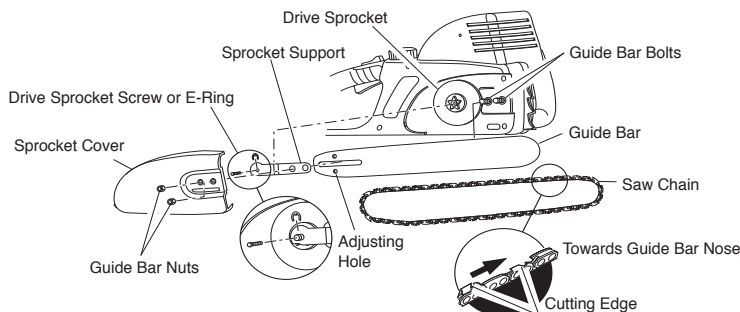

Figure 4 - Assembling Guide Bar and Chain
3. Loosen and remove drive sprocket screw or remove E-ring from shaft (see Figure 4). Remove sprocket support.
Note: Make sure cutting edges of chain are facing in right direction. Position chain so cutting edges on top of guide bar face guide bar nose (see Figure 4, and indicator on side cover of saw).
9. Turning chain tensioning knob (Model RM1635W) or chain tensioning screw (Model RM1632A), adjust position of adjustment block until it is aligned and inserted into the round adjusting hole on guide bar (see Figure 4, 5 and 6). Turning chain tensioning knob or chain tensioning screw counterclockwise will move adjustment block to rear of guide bar. Turning chain tensioning knob or chain tensioning screw clockwise will move adjustment block to front of guide bar.